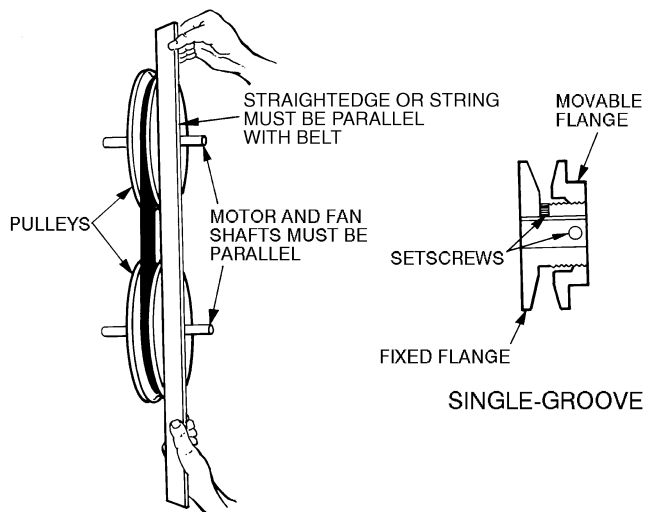

Fig. 39 — Indoor-Fan Pulley Adjustment
3. Loosen movable pulley flange setscrew (see Fig. 39).